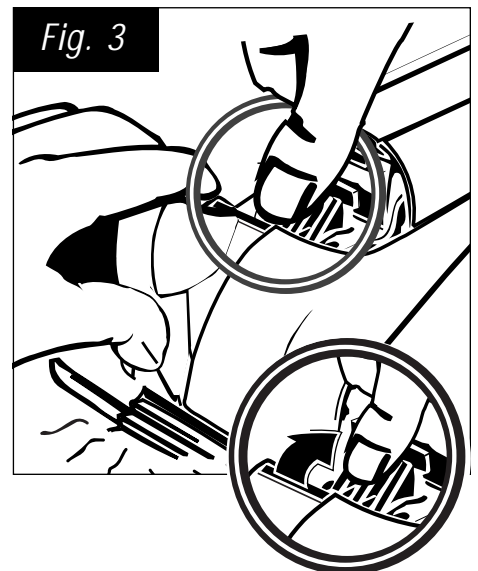

Fig. 3
2. Unlock the mechanism with your key. Pull the Black Lever back with out clicking the ratchet mechanism (see figure 3).
3. Push down on the yellow release button that is now exposed while holding a light tension on the black lever (figure 3).